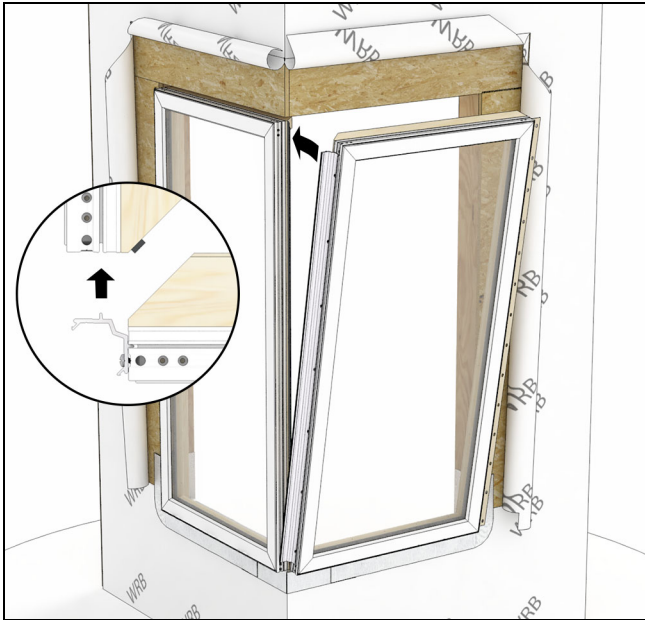

Figure 39
6. Set the bracketed leg assembly into the RO and align the location feature on the bracket into the nail fin kerf of the other unit. See Figure 39.